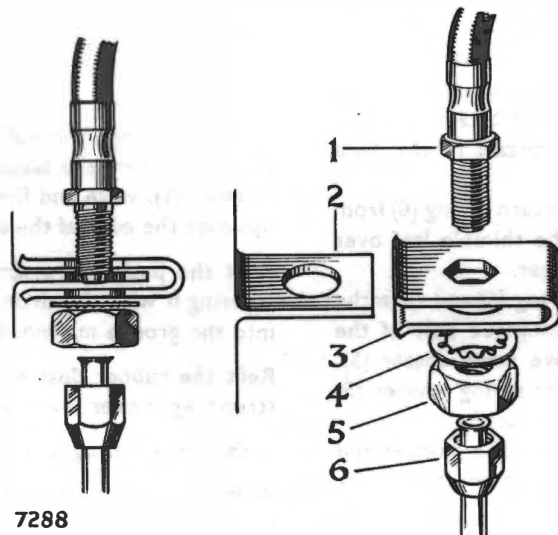

Fig. 9. Flexible hose connection - In some instances the locating plate (3) is omitted.
**To remove (See Fig. 9)**
**To refit (See Fig. 9)**